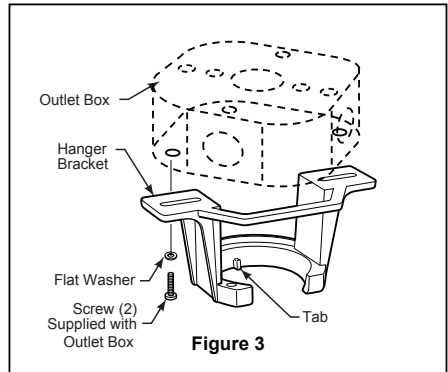

**Figure 2**
Your new ceiling fan will require a grounded electrical supply line of 120 volts AC, 60 HZ, 15 Amp Circuit. Electrical code requires use of a fan-rated outlet box to support the extra weight and motion associated with a ceiling fan. A fan-rated box will be labeled as such and typically supports up to a 70lbs ceiling fan. Fan-Rated Outlet Boxes vary in ratings and design. Ensure the ratings of your ceiling fan outlet box meet the requirements for the ceiling fan being installed. Figure 1, Figure 2 and Figure 3 depicts different structural configurations that may be used for mounting the outlet box.
### Deep-profile use (Figure 2)
2. Remove the hairpin clip and clevis pin from the bottom of the downrod. Retain the pin and clip for reinstallation in Step 4. (Figure 2)
The fan must be hung with at least 7' of clearance from floor to blades. (Figure 2)
To avoid possible electrical shock, be sure electricity is turned off at the main fuse box before wiring. (Figure 2)
2. Securely attach and tighten the canopy screw cover over the shoulder screws in the hanger bracket utilizing the keyslot twist-lock feature. (Figure 2)
2. Secure the blade holders to the hub of motor assembly using the 1/4"-20 screws. (Figure 2)
- 2. Remove the three screws in the light plate assembly. Assemble the light kit assembly to the light plate assembly using the previously removed screws. (Figure 2)
2. Restore electrical power to the outlet box by turning the electricity on at the main fuse box. (Figure 2)